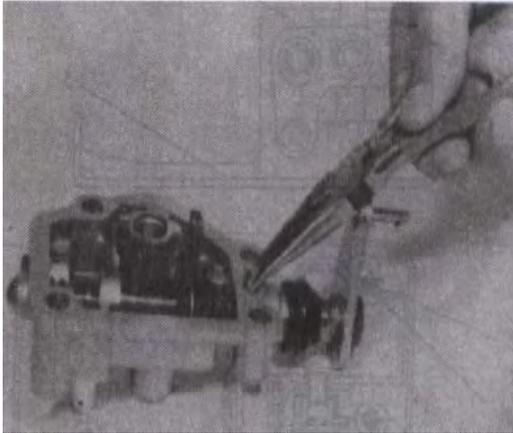

Fig 10-107
- (5) Pull out shift lever case pin from case (FIG.10-107)